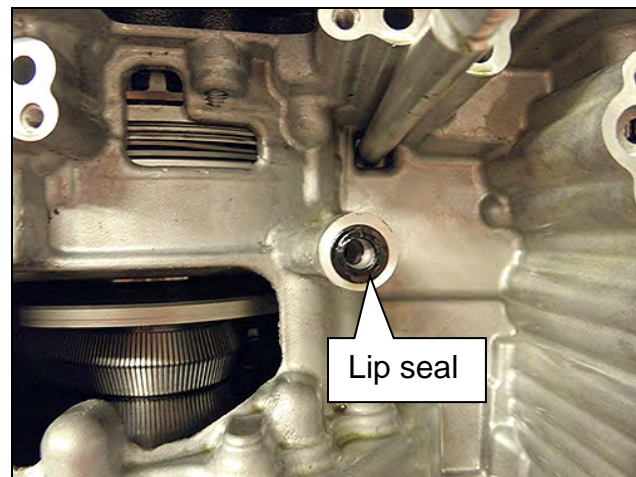

Figure 19
2. Install a new lip seal. Do NOT reuse the old lip seal (Figure 19).